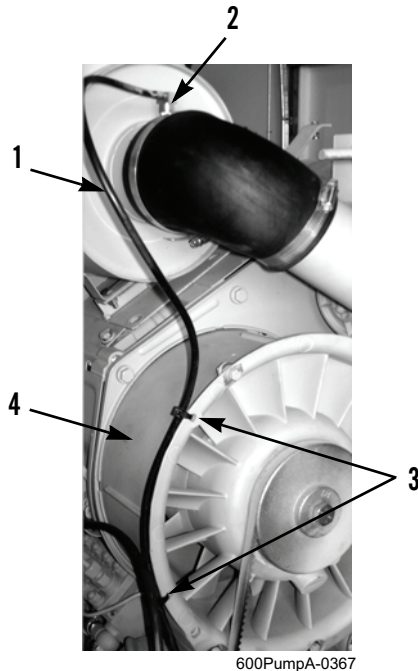

Figure 1. Tiedown Straps and Air Line.
1. Remove two tiedown straps (Figure 1, Item 3) and air line (Figure 1, Item 1) from cooling fan assembly (Figure 1, Item 4). Discard tiedown straps.
2. Remove air line (Figure 1, Item 1) from air cleaner fitting (Figure 1, Item 2).